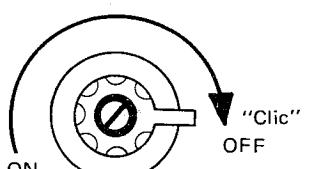

Fig. 1
1. Ensure red control knob is in "OFF" position and filler cap is firmly closed (Fig. 1).
NOTE: Should stove fail to light or match go out before ignition; turn control knob to the "OFF" position (Fig. 1) - repeat above instructions. Persistent orange flame indicates flooding. Turn red control knob to "OFF" position, allow flame to burn out. Repeat above instruction.